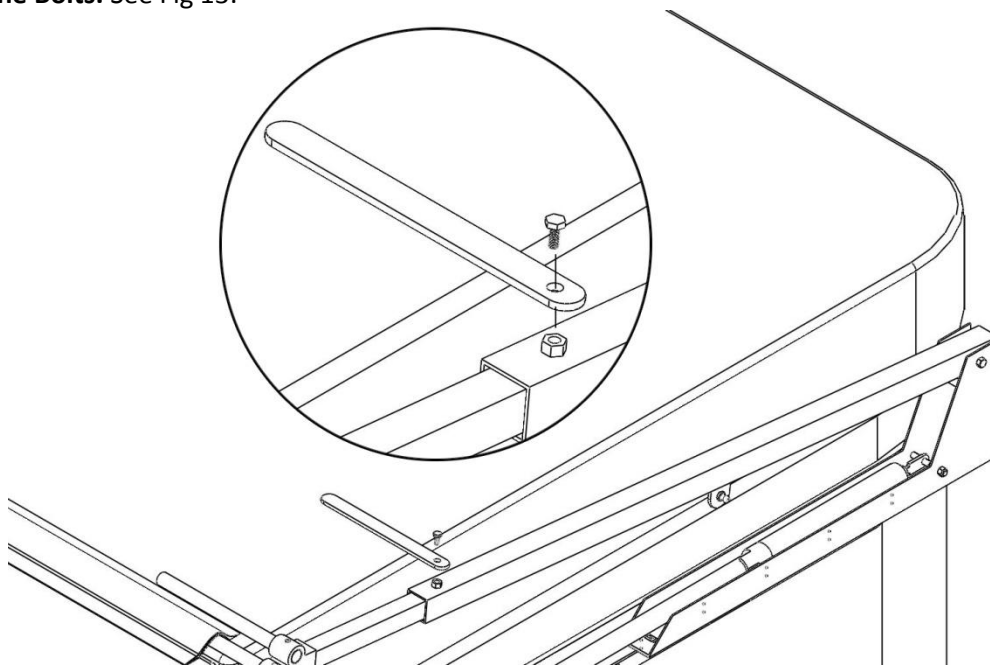

Figure 13
13. Prior to this step, ensure that the cover is centered on the spa (in closed position). Securely fasten the Stabilizer Bars (cvFF) and the Extension Arms (cvDD) to the Pivot Arms (cvCC) with the Medium Hex bolt (cvD). Tighten the bolt to the pre-installed nut on the Pivot Arm (cvCC) so that the Extension Arm (cvDD) will no longer slide in the Pivot Arm (cvCC) and the Stabilizer Bar (cvFF) does not move freely. **Do Not Over Tighten the Bolts.** See Fig 13.